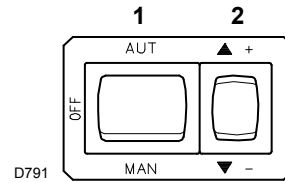
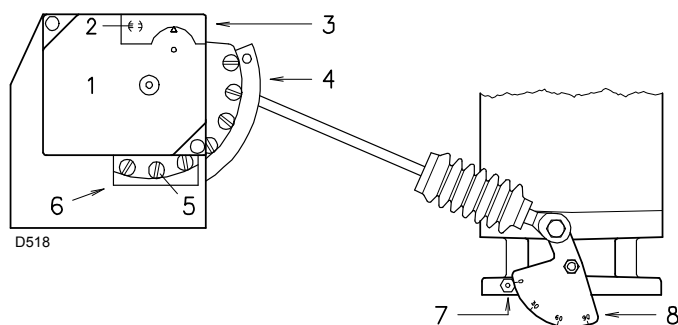
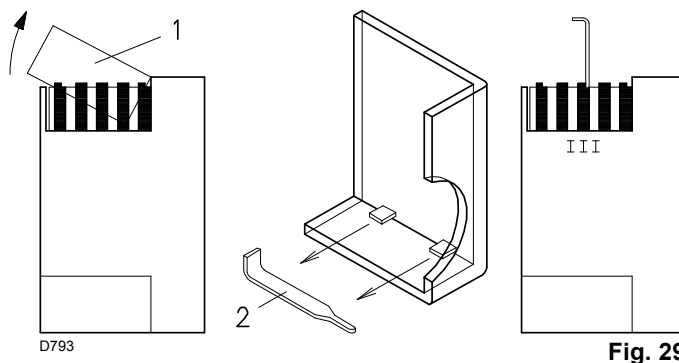

Fig. 27
Fig. 28
Fig. 29
Turn off the remote controls and set the switch 1)(Fig. 27) to "MAN".
Now press the "increase output" button 2)(Fig. 27), and keep it pressed until the servomotor has opened the air damper and the gas butterfly valve to 90°.
Progressively adjust the end profile of cam 4)(Fig. 28) by turning the screws of the cam that appear inside the opening 6)(Fig. 28).
Key (Fig. 28)
Press the “reduce output” button 2)(Fig. 27 on page 22) and keep it pressed until the servomotor has closed the air damper and the gas butterfly valve is at 20° (adjustment made in the factory).
- If it is necessary to reduce it, slightly decrease the angle of cam III (Fig. 29) with small, regular movements, i.e. bring it from an angle of 20° to 18° - 16°....
- If you need to increase it, lightly press the “increase output” button 2)(Fig. 27 on page 22) (open the gas butterfly valve by 10-15°), and increase angle of cam III (Fig. 29) with a series of small movements, i.e. move from angle 20° to 22° - 24°....
To adjust cam III, remove the snap action cover 1)(Fig. 29), remove the relative key 2) from inside and insert it into the notch of cam III.
Progressively adjust the beginning profile of cam 4)(Fig. 28) by turning the screws of the cam that appear inside the opening 6)(Fig. 28).
Lightly press the “increase output” button 2)(Fig. 27 on page 22) so that a new screw 5)(Fig. 28) appears inside the opening 6)(Fig. 28), adjust it until optimal combustion is obtained.
Switch off the burner using the switch 1)(Fig. 27 on page 22), position OFF, release the variable profile cam from the servomotor putting the notch 2)(Fig. 28) in the vertical position.